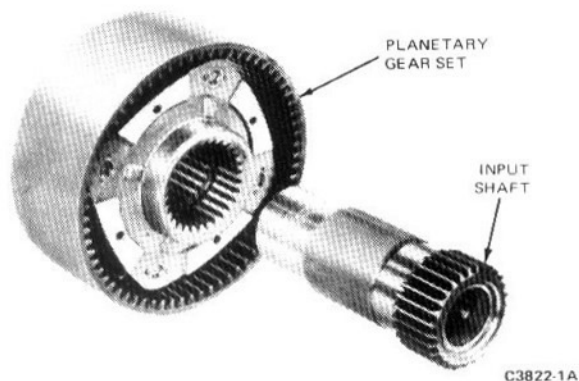

FIG. 19 Removing Input Shaft From Planetary Gear Set
1. Slide the input shaft rearward out of the planetary gear set (Fig. 19).